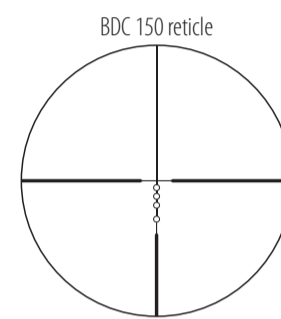

Fig. 3
(1) Focusing
- Look through the eyepiece with your eye positioned about 4 inches (10 cm) away from the eyepiece lens to see the BDC150 Reticle (Fig. 3) depending on your purchased product. Be sure your eye is positioned within proper alignment and proper eye relief, otherwise the view will "black out".